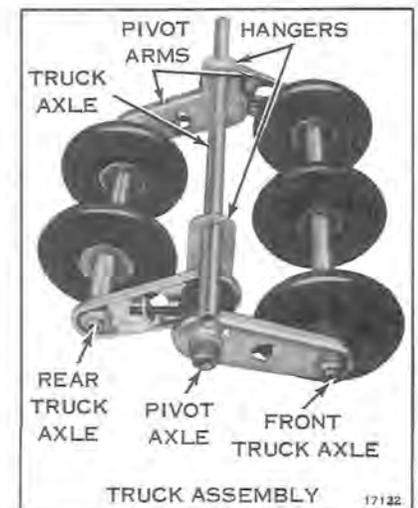

Figure 11-8
1. Assemble wheels and spacers to their original positions on the front and rear truck axles. Application of a light oil on the axles will assist in this procedure. Apply OMC Part No. 262233 grease under nylon bushings and assemble to pivot axles. Assemble hanger and truck axle assembly to pivot axle. Assemble pivot arms and springs. See Figure 11-8.